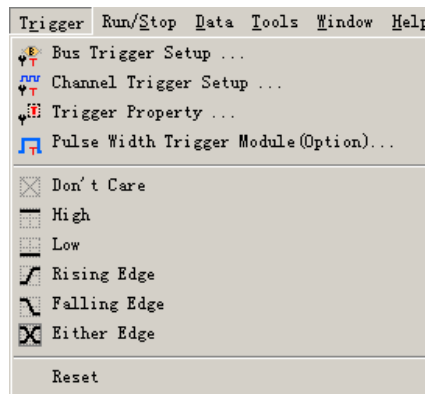

Fig 4-22 – Trigger Menu
3. Click **Trigger** on the Menu Bar and choose a trigger condition from the list of triggers as shown in Fig 4-22.